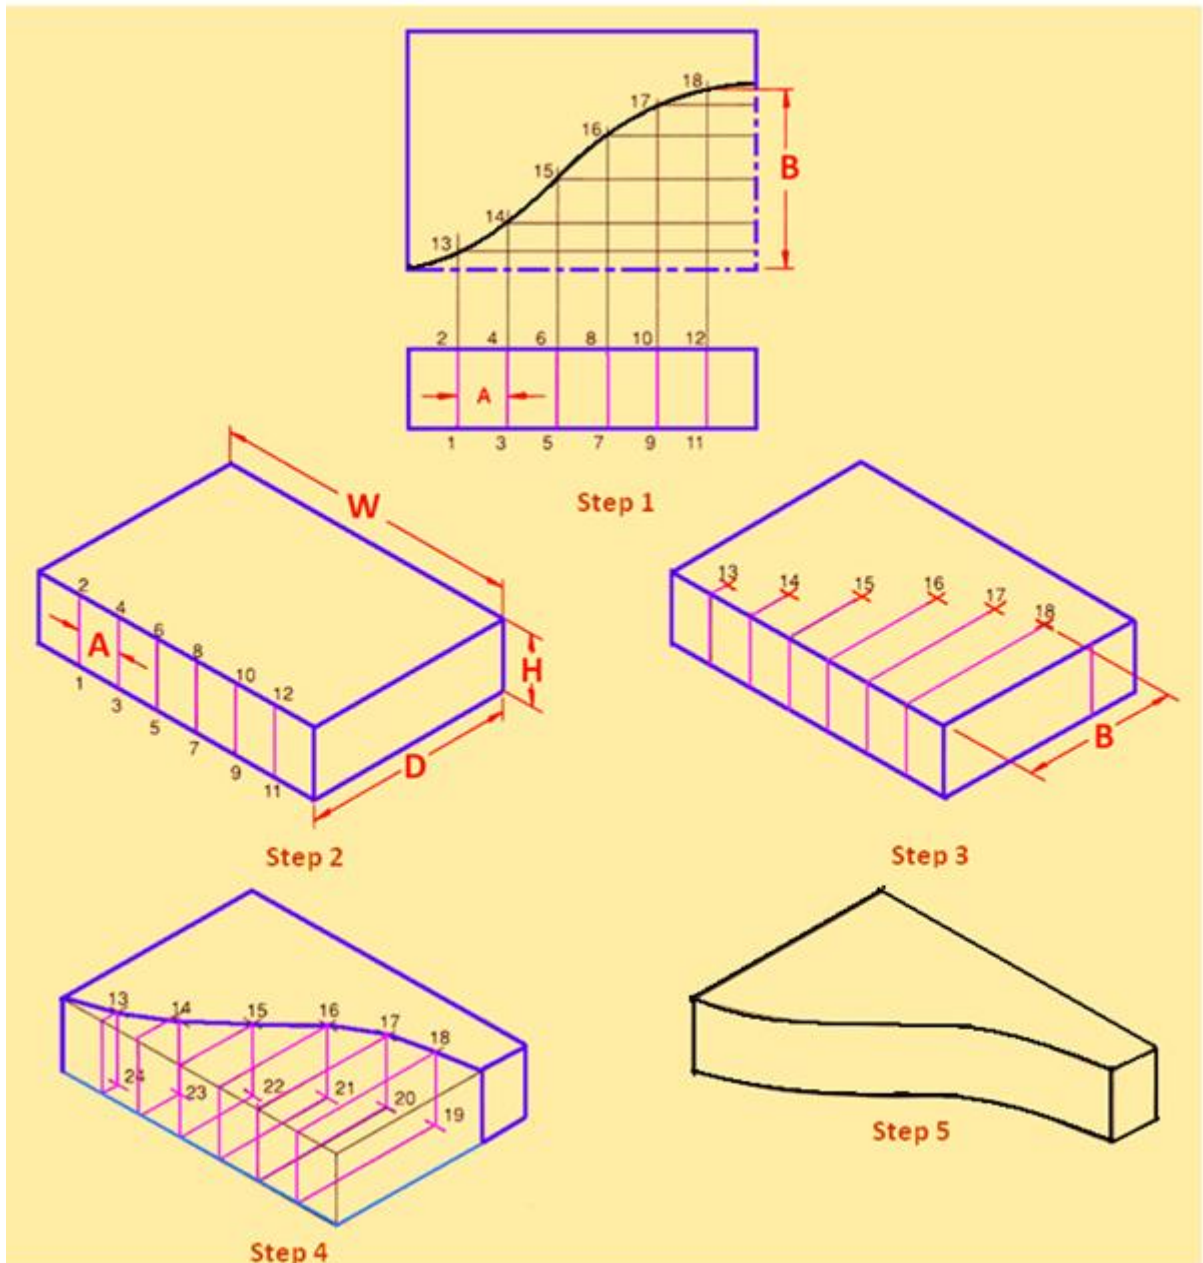

Figure 25. Isometric view of an object having irregular curved shape.
**Example 5. To draw the isometric view of the object having Irregular curve shown in figure 25.**